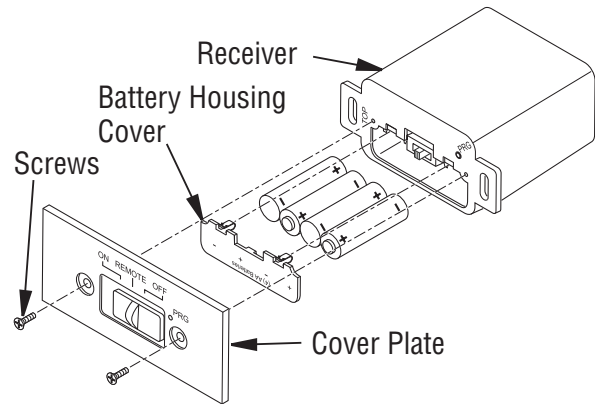

Figure 31 - Battery Install Remote Control Receiver
3. Attach cover plate to receiver with 2 screws as shown in **Figure 31**.